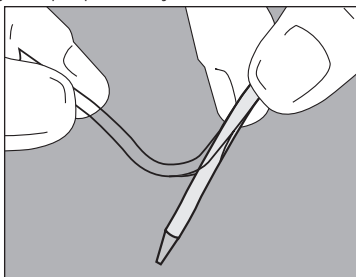

Figure 1
- With sterile-gloved fingers, peel back tail of peel-away catheter contamination guard to expose tip of catheter (Figure 1).